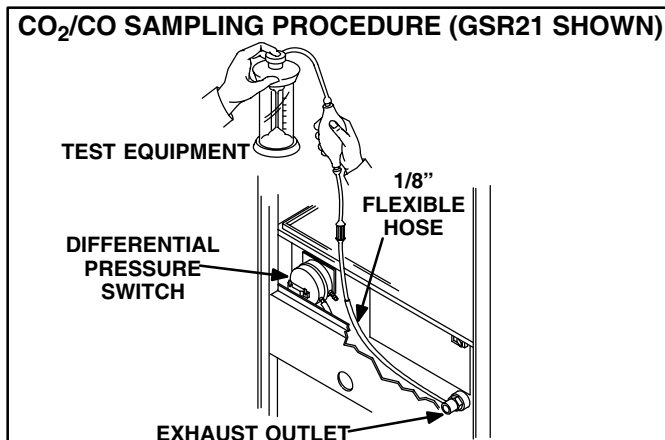

FIGURE 67
- 1 - Drill size "R" or 11/32" in. hole on top of the exhaust outlet PVC elbow (inside unit cabinet) and tap 1/8-27 NPT as shown in figure 67. This hole is used as the CO₂/CO test port.
- 2 - Install a hose barb into the test port. See figure 67.